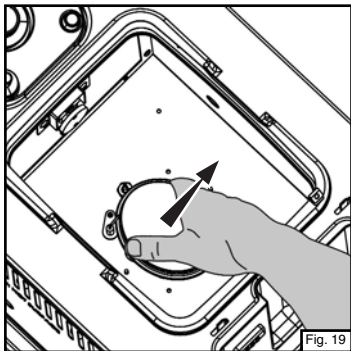

Fig. 19
- If your unit displays a poor flame or will not ignite, the burner may have a blockage due to dirt or an insect nest. Firmly pull the burner upward to remove (Fig. 19).